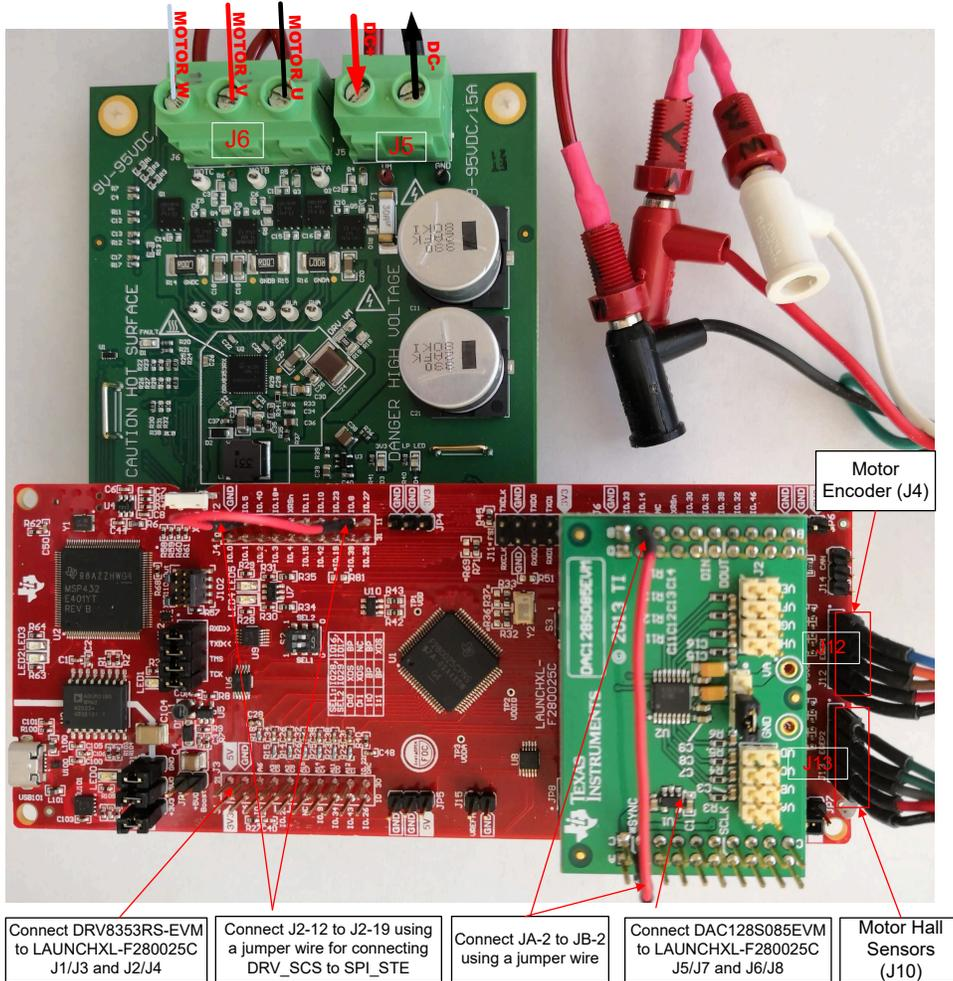

Figure 3-13. LAUNCHXL-F280025C/F280039C/F2800137 Connected to the DRV8353RS-EVM and DAC128S085EVM
- Make sure that the following items are completed as described below, and then connect the DRV8353RS-EVM to site 1 (J1/J3 and J4/J2) of the LAUNCHXL-F280025C as shown in Figure 3-13.
- Do not connect J3-29 and J3-30 of the LAUNCHXL-F280025C, LAUNCHXL-F280039C, or LAUNCHXL-F2800137 to the DRV8353RS-EVM as shown in Figure 3-13.
- Use a jumper wire to connect J2-19 to J2-12 of LAUNCHXL-F280025C and LAUNCHXL-F280039C or J2-13 to J2-12 of LAUNCHXL-F2800137 to make proper connection of the C2000's SPI-STE to the DRVx device as shown in Figure 3-13.
- Connect the motor, encoder, and Hall sensors to the DRV8353RS-EVM and the LAUNCHXL-F280025C, LAUNCHXL-F280039C, or LAUNCHXL-F2800137 as described in Table 3-2 and shown in Figure 3-13.